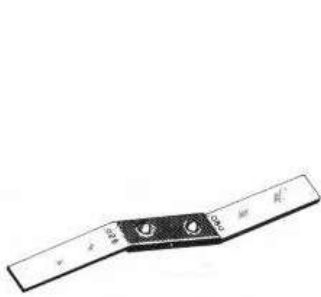
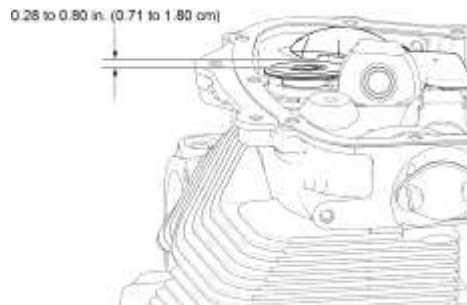

Figure 36
Figure 37
(1) Push in on the push rod end of the valve rocker.
(2) Use a Valve Clearance Gage (ST-23) (Figure 36) to measure the distance between the end of the valve rocker assembly and the valve stem cap (Figures 37 and 38).